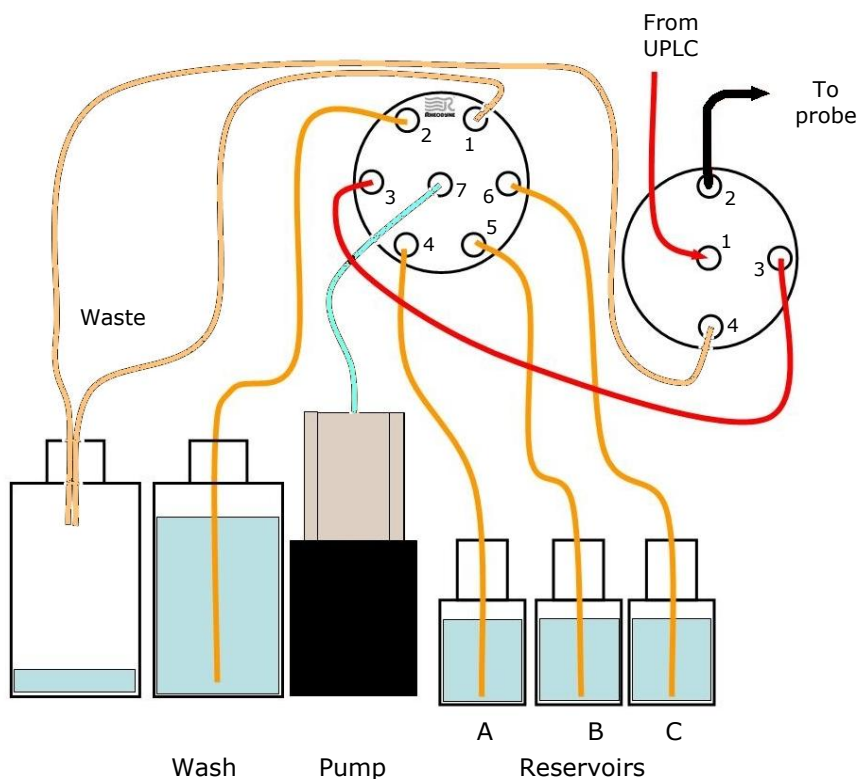

Figure 22 - Plumbing the fluidic connections
1. Plumb the fluidic connections as shown in Figure 22.